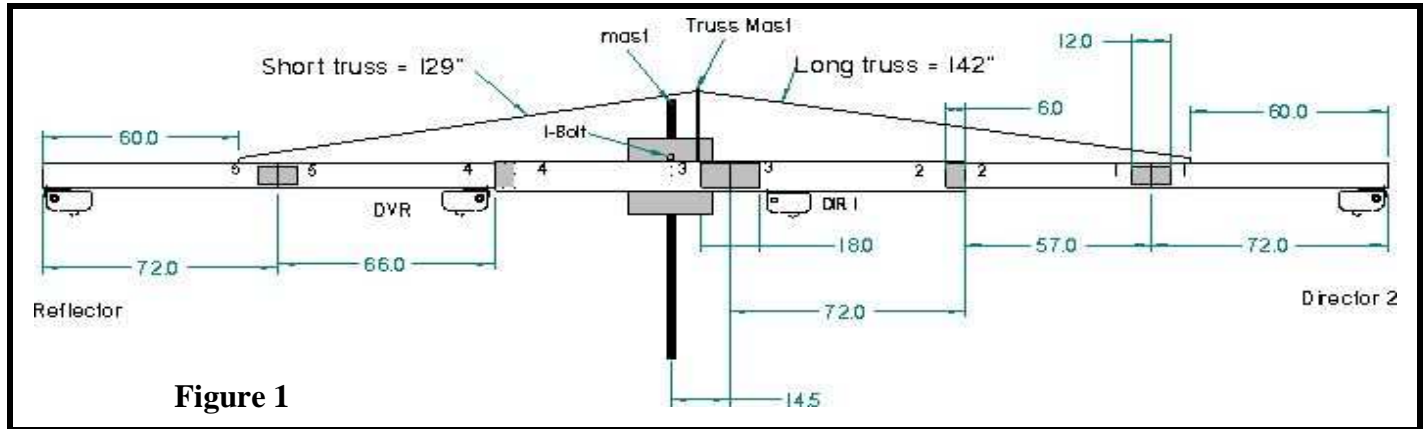

Figure 1
If the holes are visibly out of alignment when you are assembling the boom, you probably have the boom pieces put together in the wrong order – or the boom sections that do not have an element bracket on them may need to be rotated 180 degrees. Each boom piece has a number permanently **written**, **scribed** or **stamped** on it. Match each number with the exact same number of a corresponding boom piece. **Picture 4.5** shows joint # 1 markings inside the ring (they must line up). **Figure 1** shows how each boom section is numbered.
Apply some anti-seize lubricant to the insides of all the nuts prior to assembly. Assemble the boom by sliding the six sections together in the order shown in **Figure 1**. Insert the required bolts into the holes and loosely attach them with the 1/4" Nylok nuts. Note that, in some cases you may find it necessary to assist the bolts that you are installing by "threading" them in with a wrench. **DO NOT** attempt to hammer them into place, you can lightly tap the bolts in after threading them in as far as possible.
4. After assembling each of the five joints as shown in **Fig 1**. Tighten the nuts on each bolt and eye bolt securely. Before continuing to the next step, verify that all nuts and bolts, including those installed at the factory, are securely tightened.
**Note:** The Director 1 element plate can be mounted two ways, the correct position puts the element support tubes closest to the mast plate, see **Figure 1 & 2**. The #10-32 screws do not need anti-seize lubricant, they have special lubricated nuts.
1. Mount the truss mast using the 1 ¾ in. u-bolts as shown in **Picture 3** and **Figure 1**.